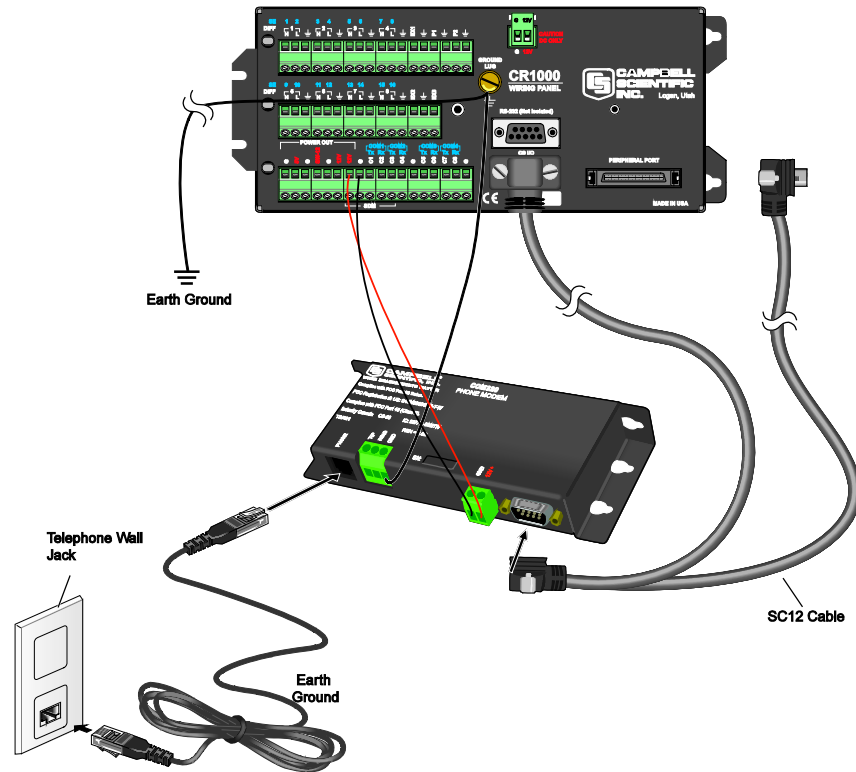

FIGURE 6-3. COM320 Grounding and Alternate 12VDC Power
**A quality EARTH GROUND connection to the COM320 and datalogger maximizes protection against electrostatic discharge! Follow carefully the EARTH GROUND scheme in FIGURE 6-3. The COM320 employs spark gaps on the phone lines; however, they will be ineffective without quality earth grounding.**